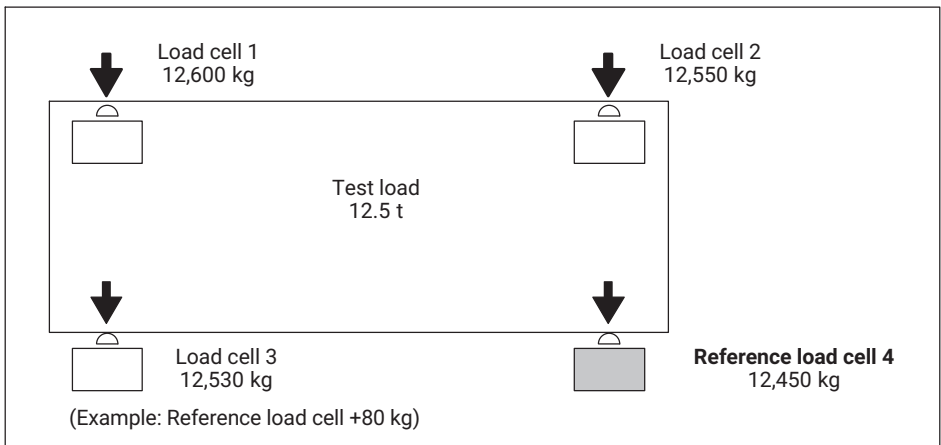

Fig. 8.1 Typical Platform weighing machine with four load cells with 12.5 t test load
- When the four corners of the platform are loaded, note the weighing machine signals in order to assess the respective differences (in kg) to the corner of the weighing machine (load cell) with the lowest indication. This load cell is the reference load cell (4) and does not need balancing (in the example in Fig. 8.1, load cell 4).